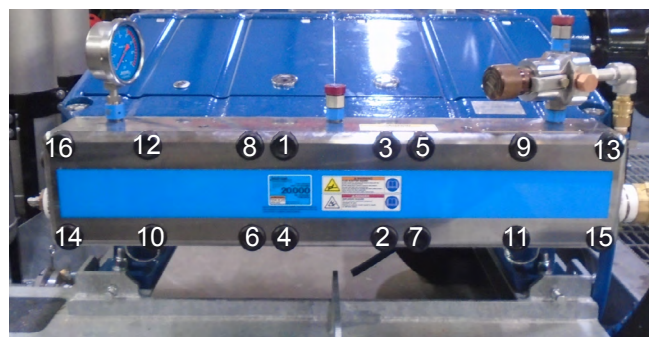

Figure 45: 5200Q Bolt Tightening Sequence
22. Install the remaining two bolts. Tighten all of the bolts in a crisscross sequence (Figure 45). Proper torque is 350 ft.-lb. (470 N·m). Due to the hydraulically biased Uni-Valve design, it is not necessary to use a torque wrench. The pump wrench and a hammer is adequate.